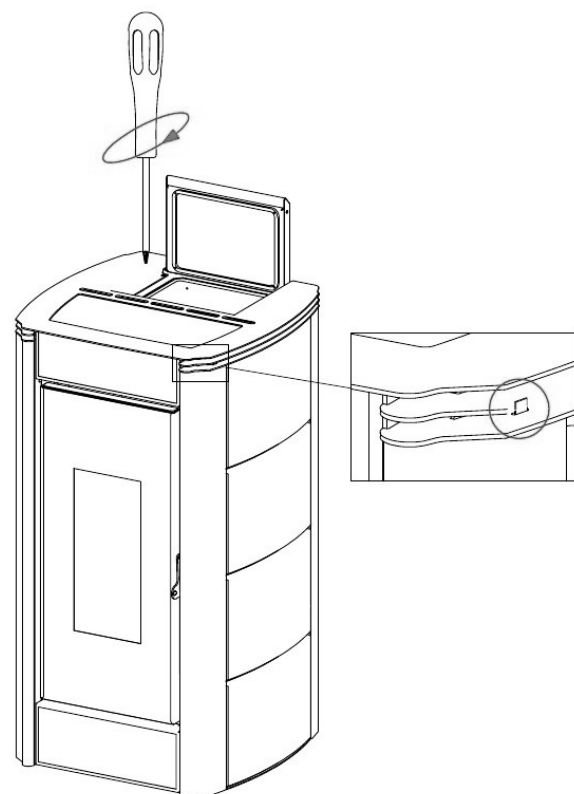

Fig. 36 - Position cover
- Reposition the cover by centring the special teeth (see **Fig. 36**).